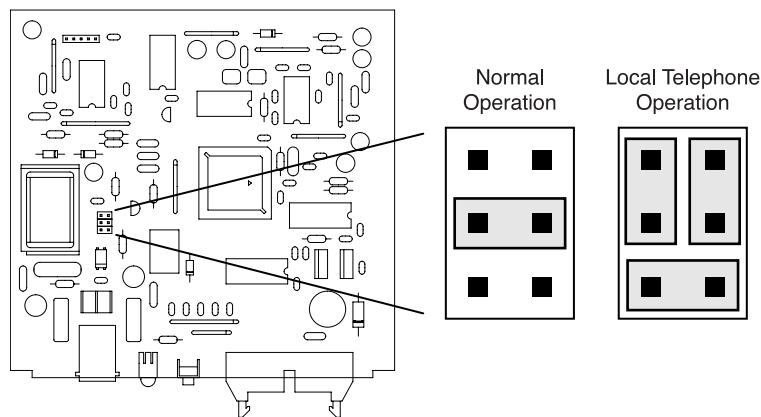

Figure 4.2; Telephone voltage jumpers JPI
- Arrange three jumpers as shown in Figure 4.2 to enable the telephone voltage. If you do not have the extra jumpers, clip leads may be used but make sure that they do not short any components.
- *This step is extremely important!* When you are finished, disconnect the ribbon and telephone cables. Replace the jumper at JP1 to its original position for normal operation as shown in Figure 4.2. Arrows on the circuit board indicate the correct position for the jumper. Failure to install the jumper properly may cause damage to the DAI-2 or other equipment.